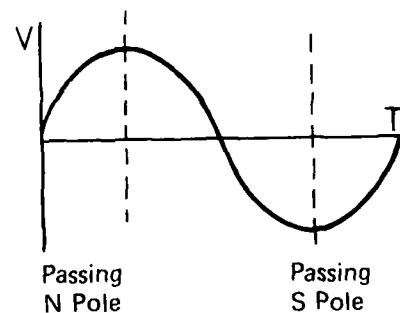

Figure 27
- The voltage generated in the coils reverses itself each time that it passes a different pole. This would cause alternating current to flow. (See Figure 27)